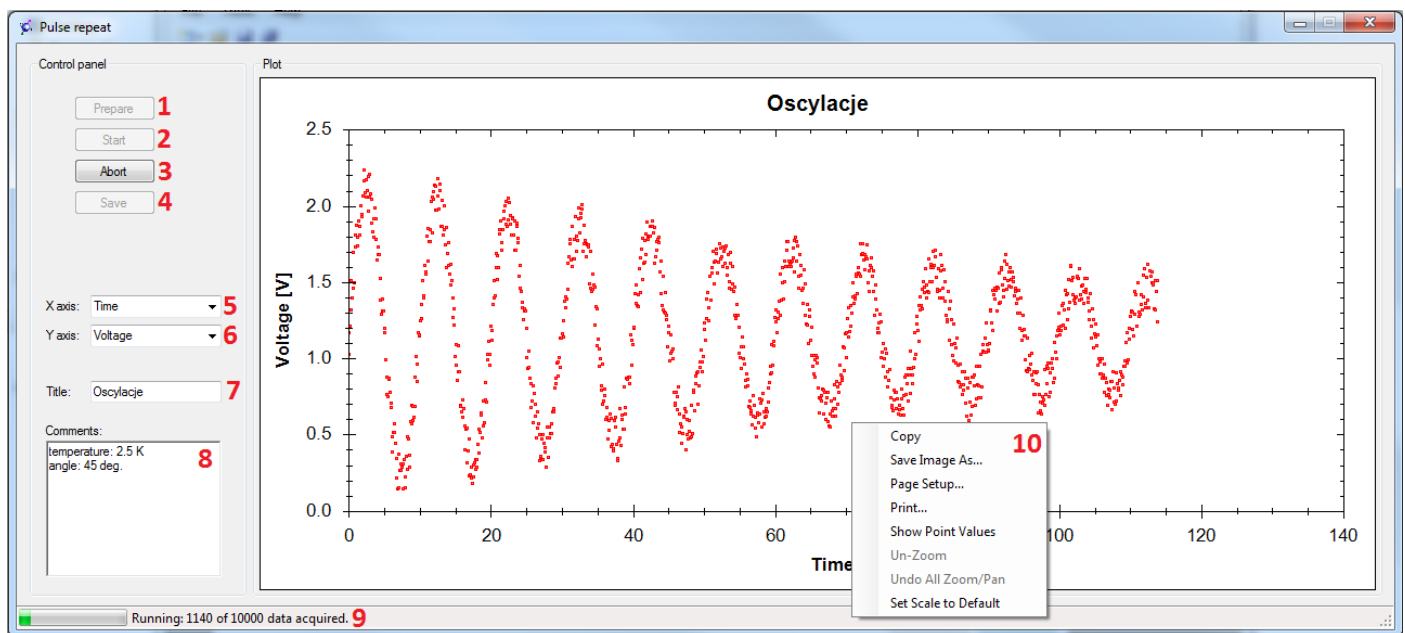

Figure 15. Measurement window.
- 35) Clicking that button displays the window for measurement process control (fig. 15).